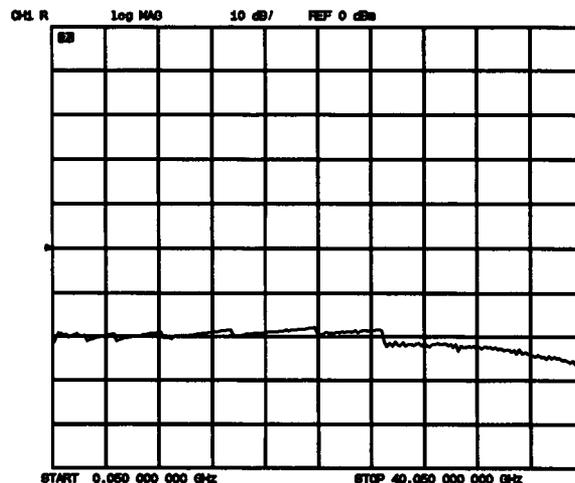

Figure 7–1. Typical Trace
12. Connect an open or short to port 1. Press **A** to look at input A (port 1). The trace should resemble Figure 7–1 below, with a minimum of about  $-50$  dB at 50 MHz and a value around  $-30$  dB over the flat section.